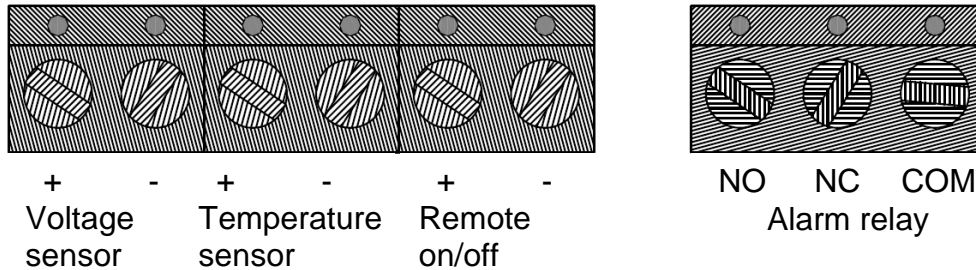

Figure 5 Connector block
2.3.1. External voltage sensor (see fig 5)